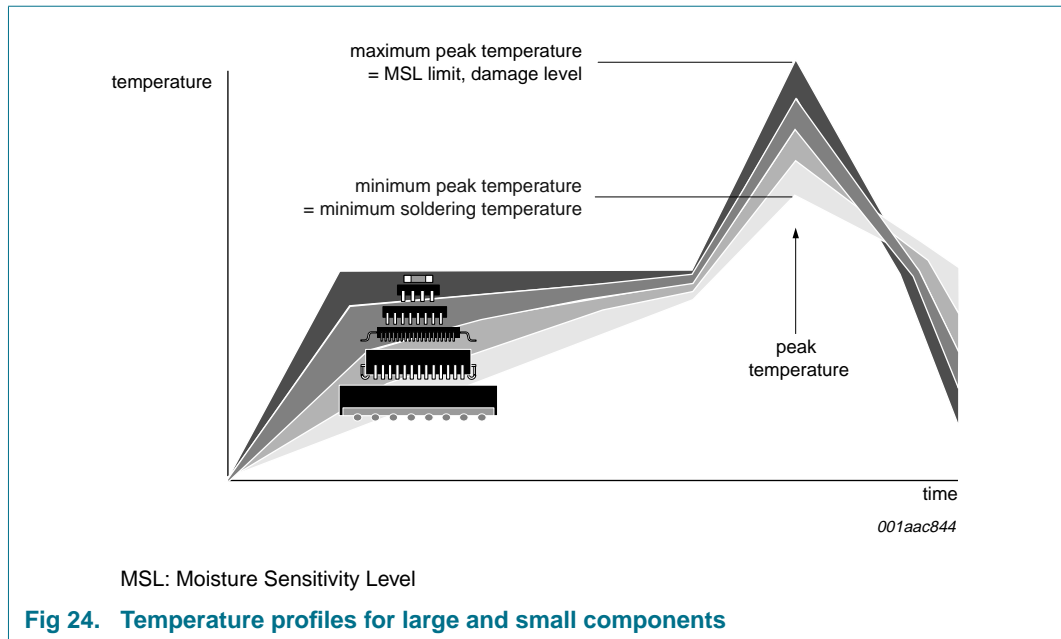

Fig 24. Temperature profiles for large and small components
- Lead-free versus SnPb soldering; note that a lead-free reflow process usually leads to higher minimum peak temperatures (see Figure 24) than a SnPb process, thus reducing the process window
Studies have shown that small packages reach higher temperatures during reflow soldering, see Figure 24.